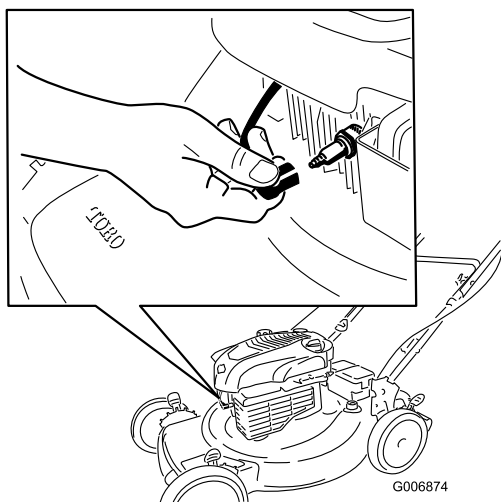

Figure 27
2. Disconnect the spark plug wire from the spark plug and hook it onto the retaining post (Figure 27) before performing any maintenance procedure.